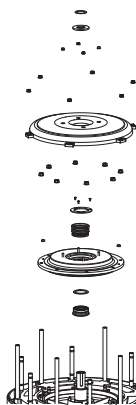

Figure 35: Mounting of mechanical seals (J 604)
J 604: Keep the pump standing upside down. Mount the stud bolts on the oil casing for the wear plate. Place the stationary ring of the secondary seal on the oil casing and then the rotating ring by using the special tool. Mount the circlip for the secondary seal. Assemble the upper wear plate, mount the stud bolts for the wear plate. Then put the primary seal stationary ring in place and fix it with the retaining ring (pos 82 + 85 in spare part list). Push on the rotating part of the primary seal by using a special tool, see section special tools. Mount the rubberized wear plate and tighten inner and outer nuts. (Figure 35)